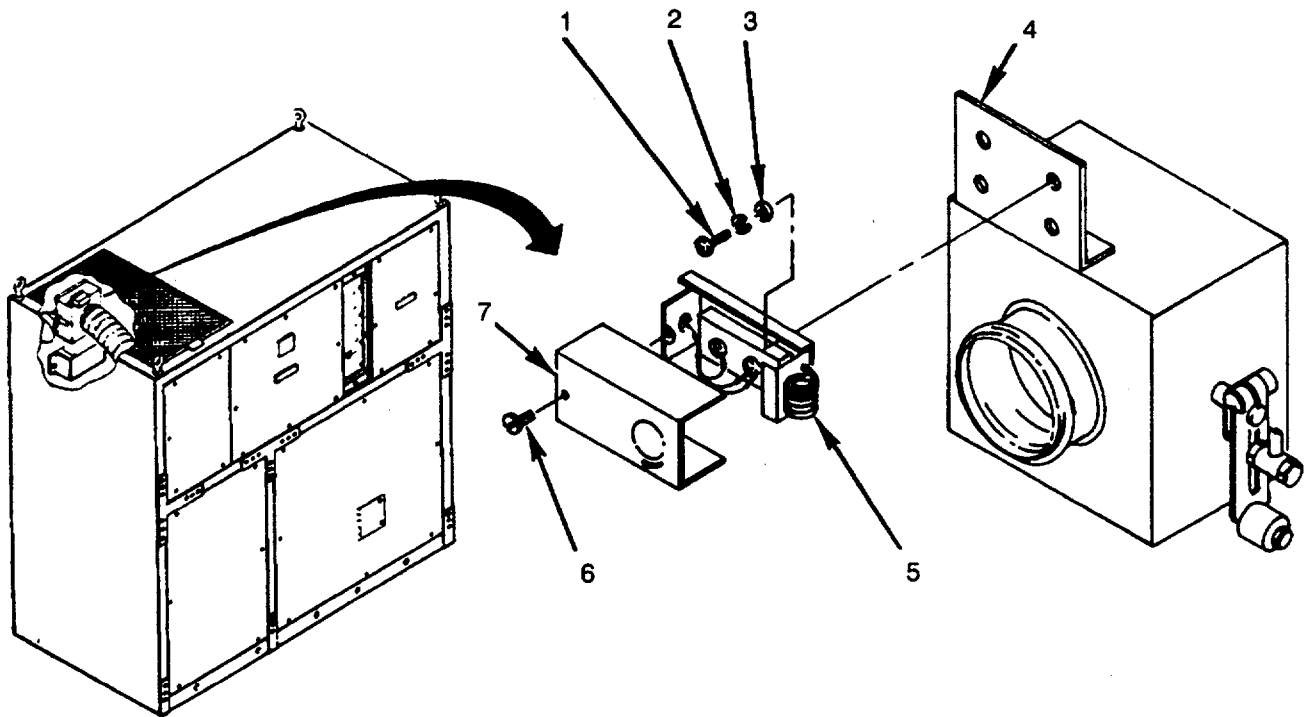

Figure 4-85. Heat Control Thermostat (S9)
1. Check that leads are properly connected (see Figure 4-85 and Figure FO-3).
3. Check thermostat (5) for signs of overheating or other obvious damage. Replace if damaged.